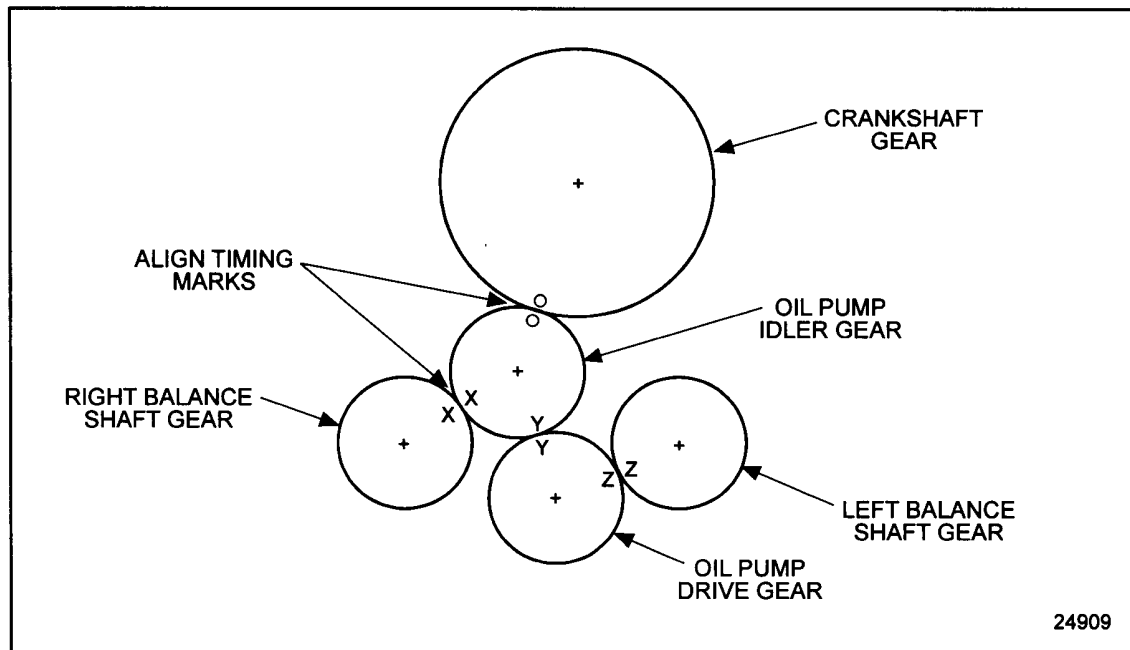

Figure 3-11 Balance Shaft Drive Gear Timing
1. Install the oil pump, taking care to match each of the letters stamped on the oil pump idler gear and oil pump drive gear with the same letter of the left and right side balance shafts. See Figure 3-11.